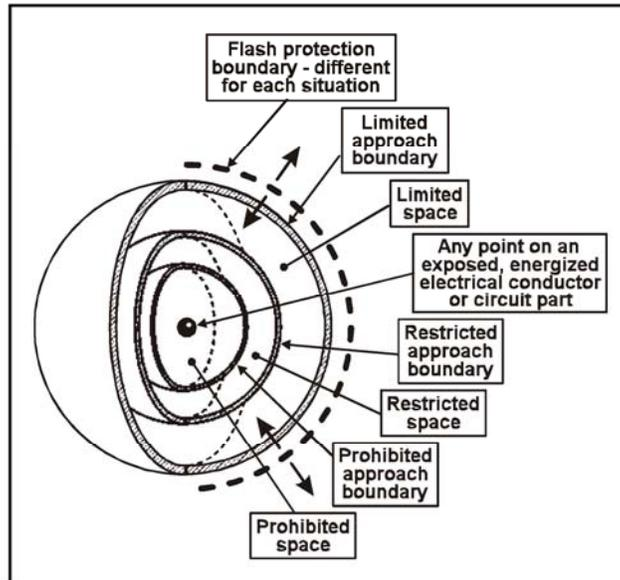

Figure 12.1—Boundaries.
12.3.1 General. For troubleshooting and testing purposes only, qualified persons using proper test equipment and personal protective equipment must adhere to the boundaries shown in figure 12-1 and specified in table 12-1. For adjusting, tightening, calibrating or any other work, the circuits must be de-energized, or employees must use voltage-rated gloves and voltage-rated insulated tools.